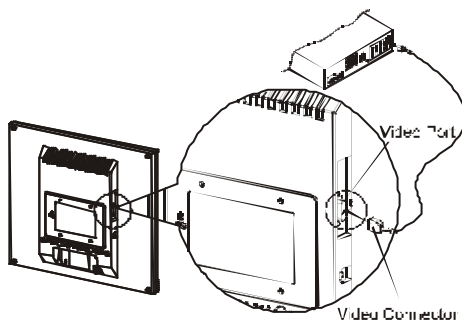

Figure 1-5
2. Connect one end of the signal cable to the LCD Monitor's VGA port. (See Fig. 1-5)